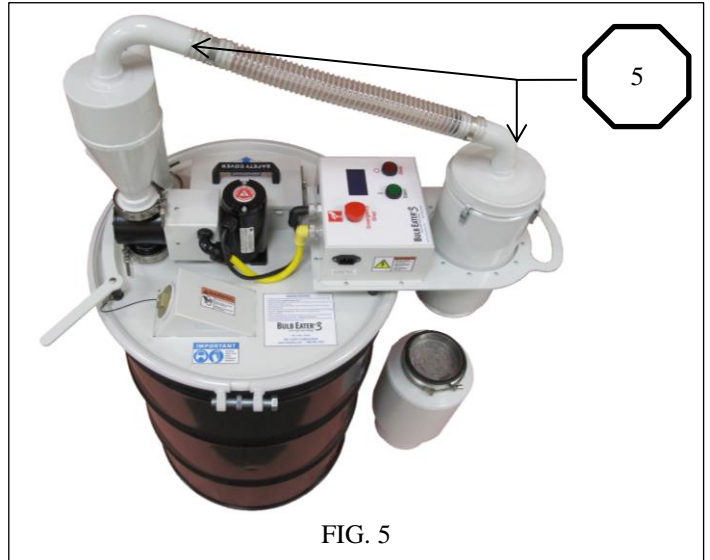

FIG. 5
5. Place the cyclone assembly on the mounting flanges with the lid assembly attached to it, and place onto the upper housing which holds the cartridge filter. **Figure 5**